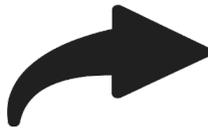

FIGURE 3.7B - MULCHING
6. Repeat steps #4 and #5 as necessary. **See Figure 3.7b on page 23.**